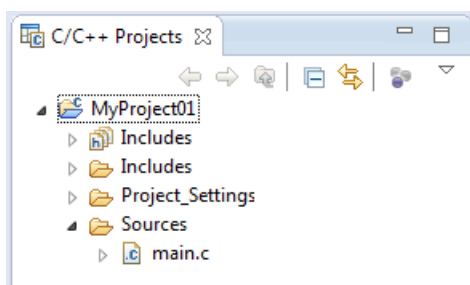

Figure 1-3. Project folder
6. The newly-created project is now visible in the left-hand part of Kinetis Design Studio. See Figure 1-3.